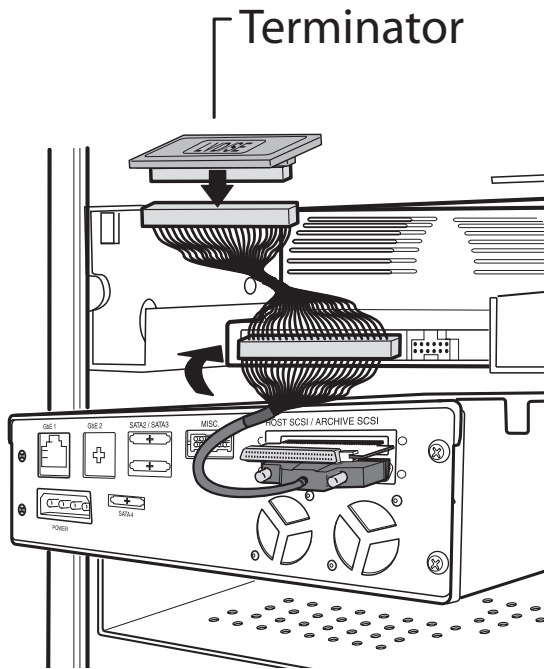

Figure 9. Connecting to an Archive Tape Drive
3. Connect the center connector on the Archive Cable to your existing DDS-4 or DAT 72 archive tape drive. Attach the supplied terminator to the last SCSI connector on this cable (see Figure 9 on page 28).